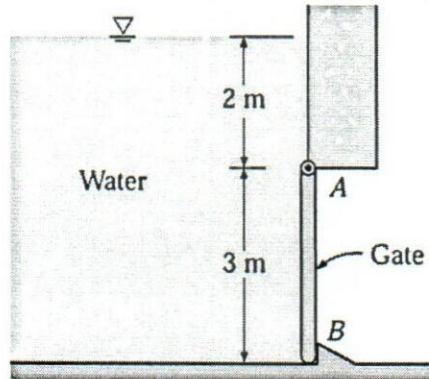

Figure 3
- Q2. i) A 3 m high and 6 m wide rectangular gate is hinged at the top edge at A and is restrained by a fixed ridge at B. The gate retains water to a depth of 5 m. (see Figure 3)